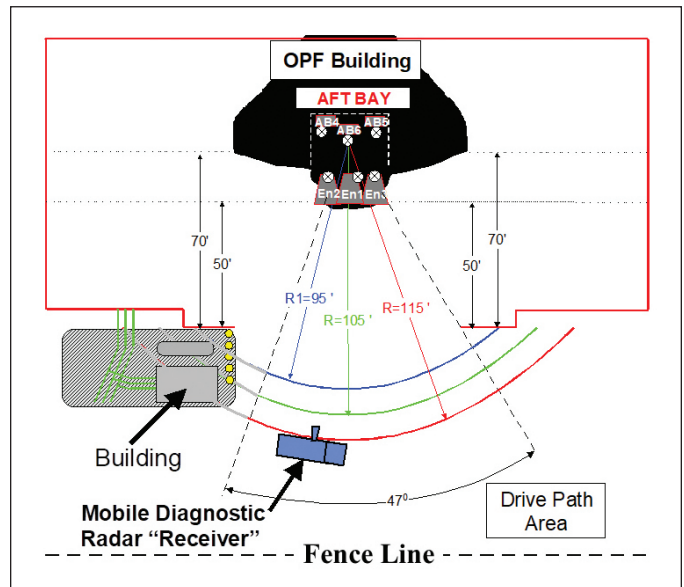

Figure 16: Orbiter *Discovery* RF attenuation measurement diagram.
The purpose of the EMI test was to provide NASA an accurate estimate of the RF attenuation at specific radar frequencies of the Orbiter Aft engine bay, including an estimate of measurement uncertainty. The measurements had to be performed while the Shuttle was contained in a hangar-like facility called the orbiter processing facility (OPF). The relative geometry of the Shuttle and the OPF high-bay (HB) 3-door area along with the test receiver is shown in Figure 16. (Note the Shuttle *Discovery* was located *inside* OPF 3, and the hanger doors were opened so that the RF attenuation measurements could be made *outside*.)
aft section of the Shuttle were moved completely to the side to avoid line-of-sight blockage between the aft bay and the receiver. In order to achieve the test objectives, the Orbiter was placed in as near-flight condition as possible to simulate ascent attenuation characteristics. Three semicircular drive paths represent a constant mean range between the Orbiter aft bay centroid and the receive antennas during the RF attenuation tests. Attenuation data was obtained for three separate ranges (95, 105, 115 ft) and multiple receive antenna heights (10, 15, 20 and 25 ft). The Cross-X's in Figure 16 represent six Vivaldi broadband antennas inserted inside the aft bay, three by the rear avionics bay wall and one next to each of the Shuttle's main engine computers.